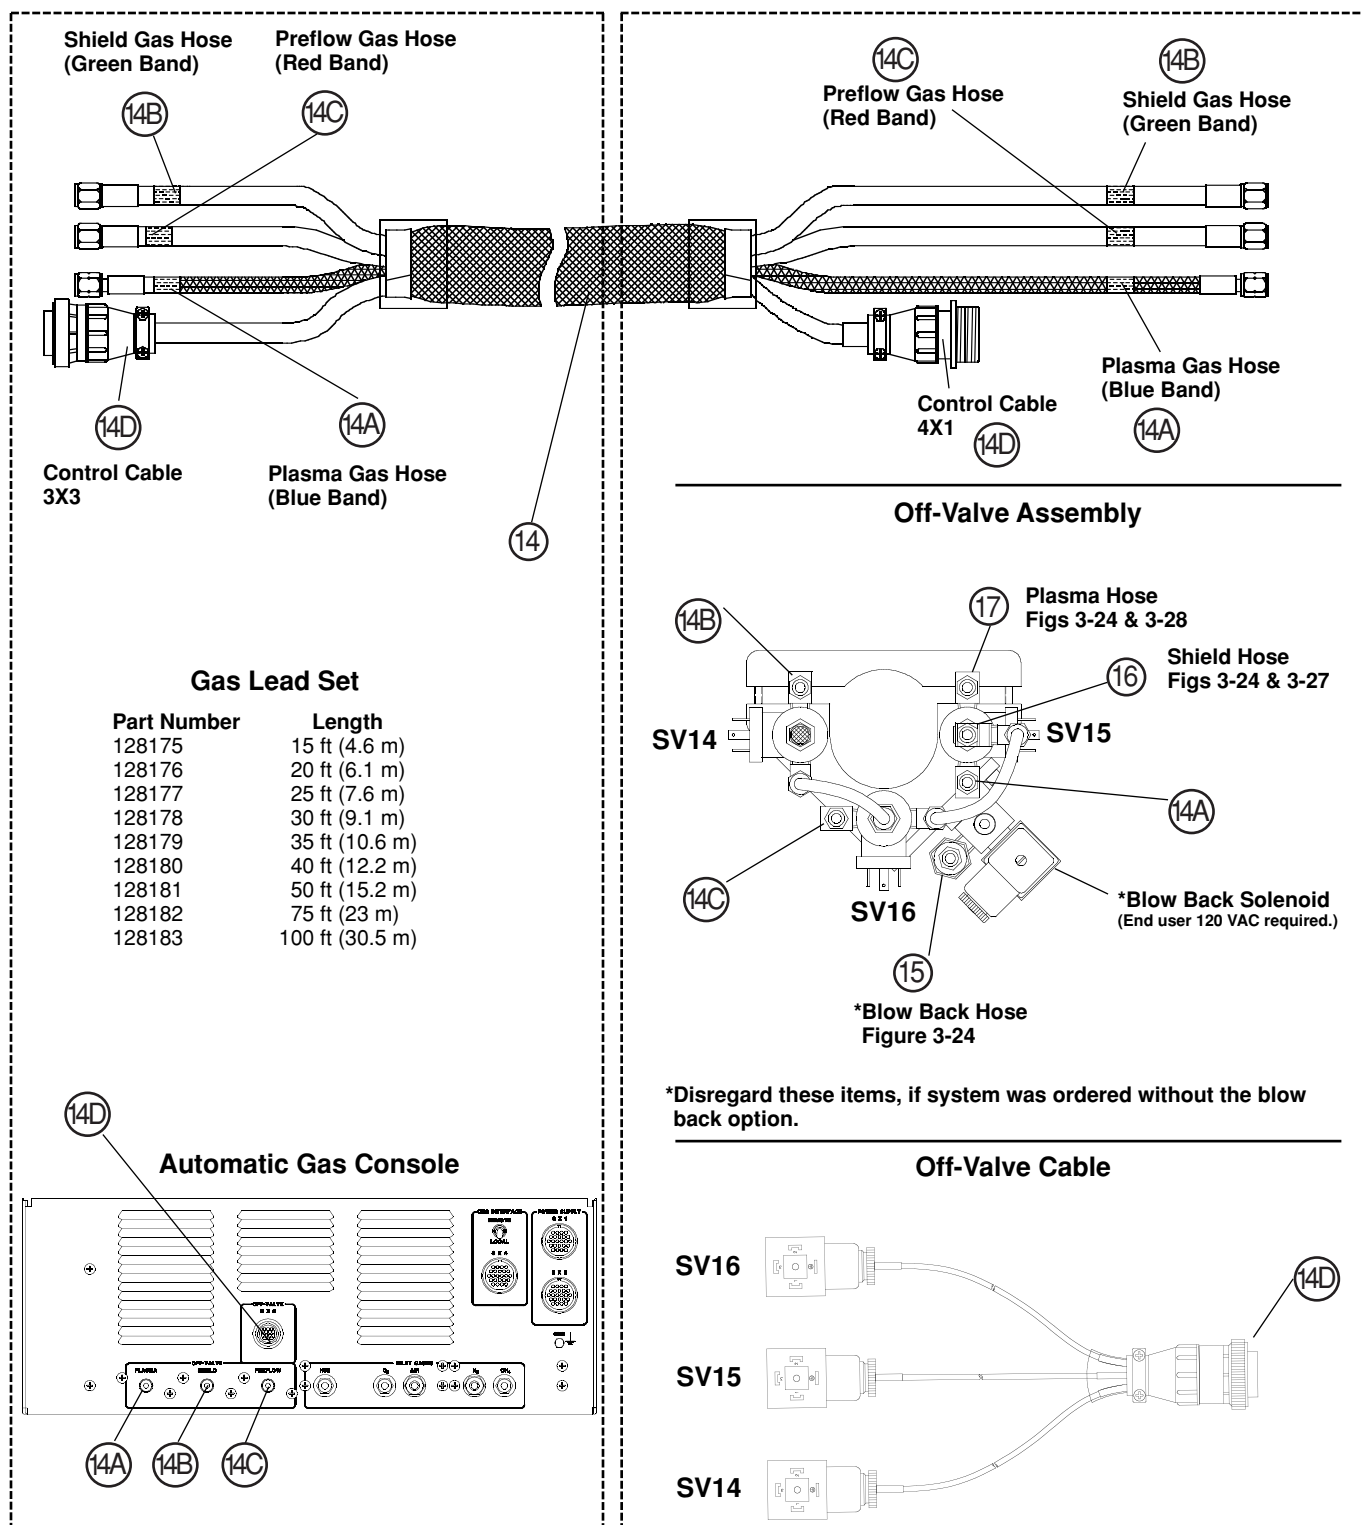

Figure 3-25 Gas Console to Off-Valve Assembly Interconnections
Gas Console to Off-Valve Assembly Interconnections (Figure 3-25)
⑮ ***Blow Back Hose (Figure 3-25)**